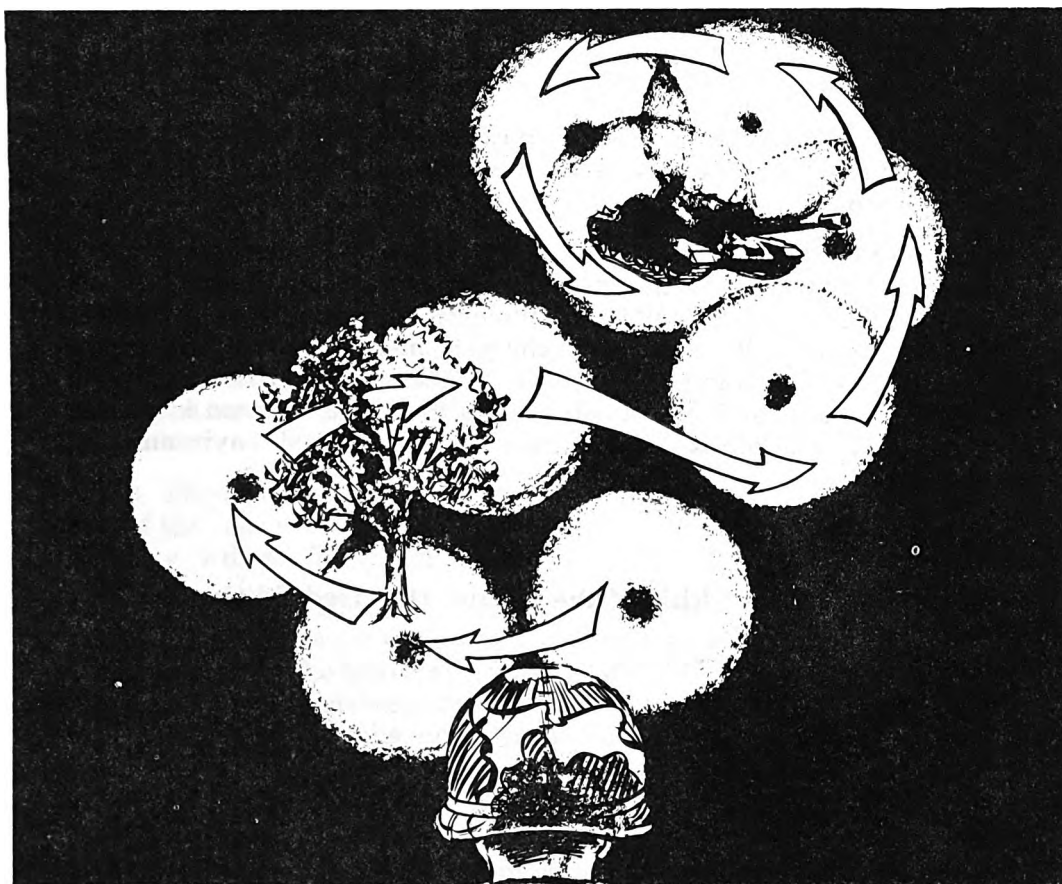

Figure 3.
- (1) Staying in a secure darkened area for 30 minutes (assembly area at night, initial rally point (IRP), etc.).
- (2) Staying in a red-lighted area for 20 minutes followed by 10 minutes in darkness.
- (3) Wearing red goggles for 20 minutes followed by 10 minutes in darkness.
- b. Scanning. To visually search areas at night, move your eyes in short, quick, irregular movements (figure 3).